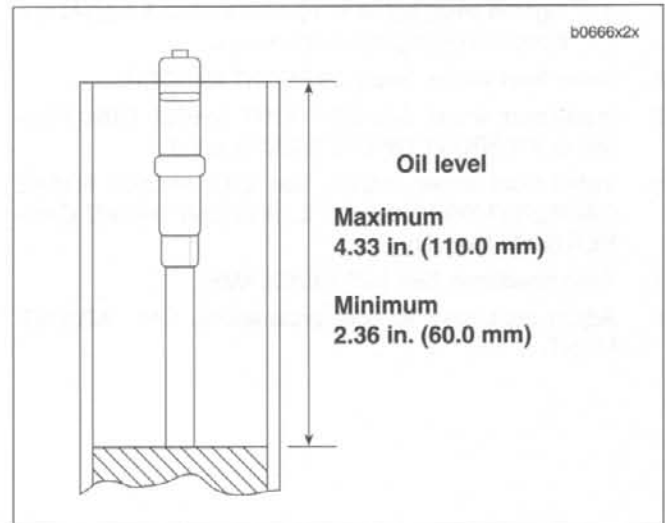

Figure 2-101. Oil Level Measurement
14. Place the piston rod and outer tube (8) in the full bottomed position.
15. See Figure 2-101. Pour the recommended fork oil into the slide pipe to a level between the maximum and minimum limits. Additional information on setting oil levels can be found under 1.18 FRONT FORK OIL.